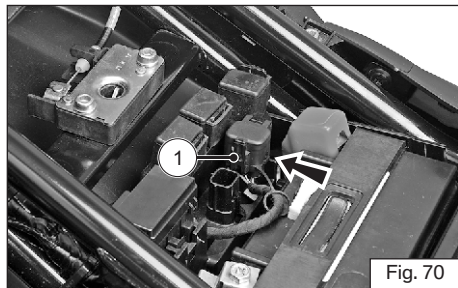

Fig. 70
- ◆ Gently pull out connector along with its cap from its location by releasing the lock (1) (ref. Fig. 70).